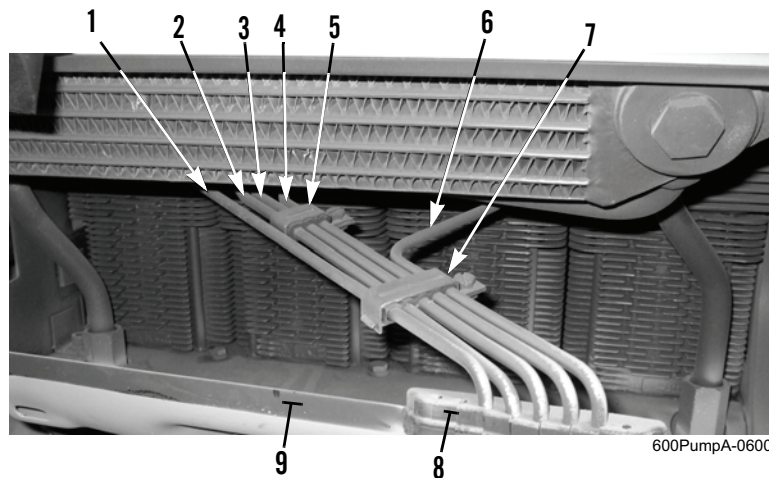

Figure 1. Pipe Clamps and Injector Lines.
2. Remove pipe clamps (Figure 1, Items 5 and 7) from injector lines (Figure 1, Items 1, 2, 3, 4, and 6).
3. Remove rubber (Figure 1, Item 8) from cover (Figure 1, Item 9).